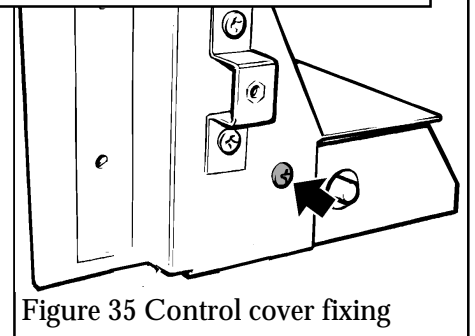

Figure 35 Control cover fixing
13.9.5 Detach the control unit cover by removing one screw (see figure 35).